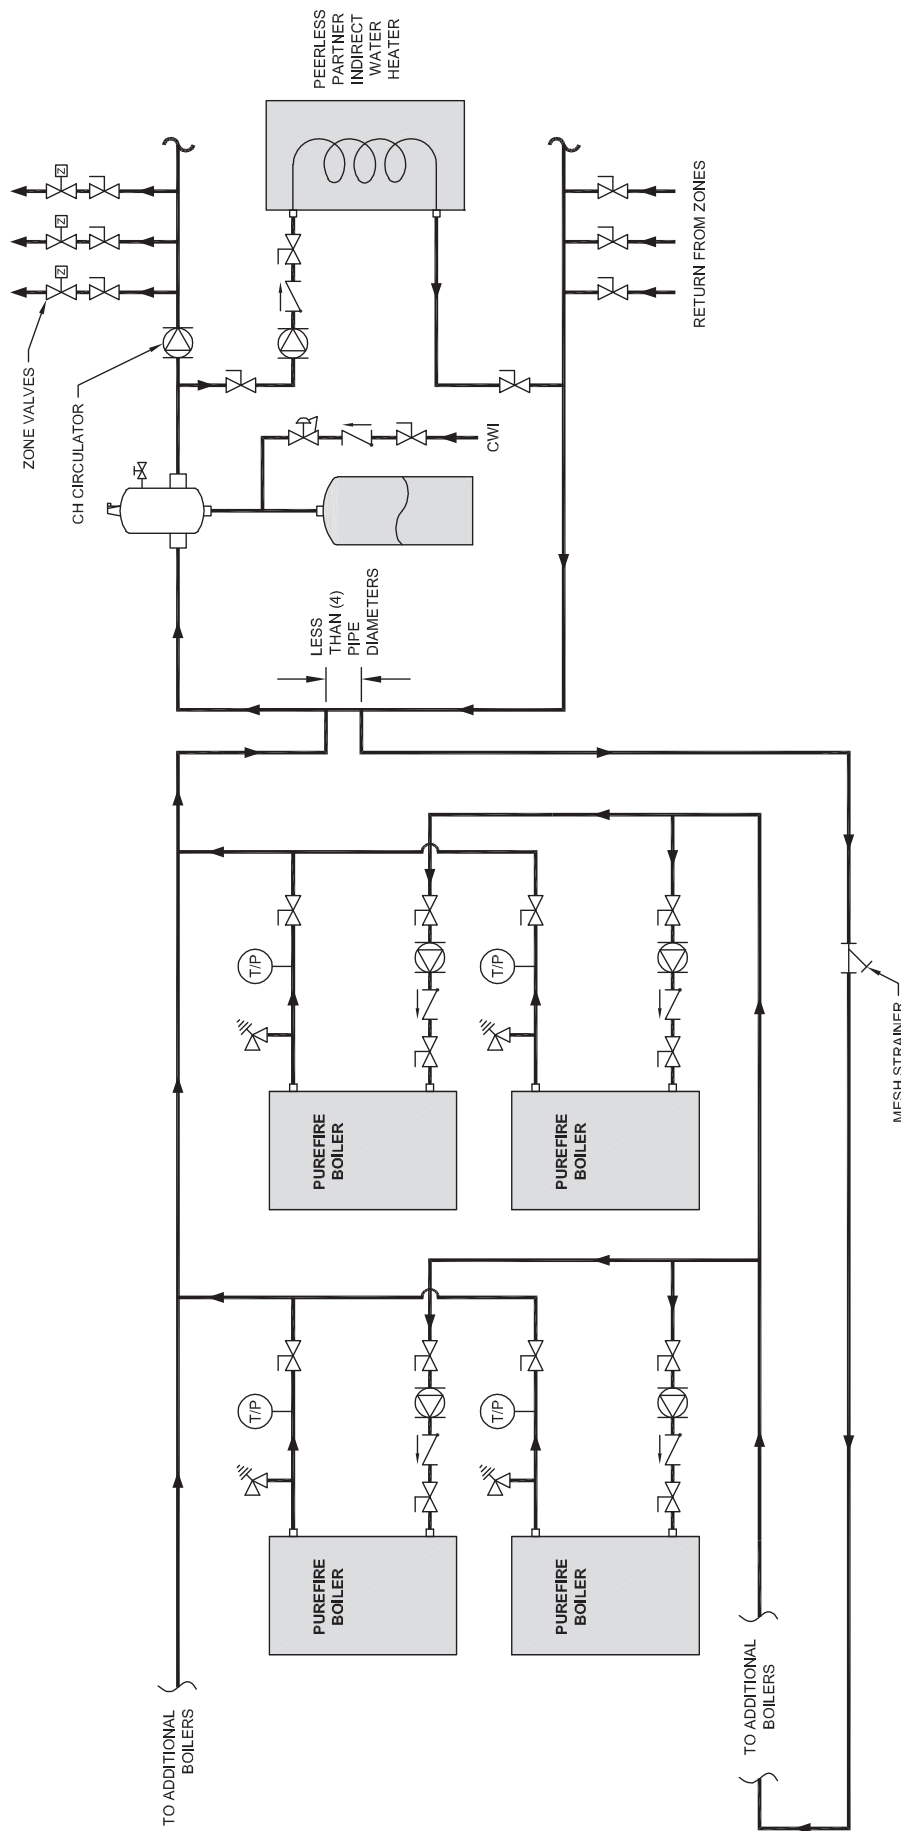

Figure 4.6: Alternate Piping – Multiple Boilers with Multiple CH Zones (Zone Valves) & One DHW Tank
3. Figure 4.6 shows a multiple boiler configuration which uses zone valves instead of zone circulators. Systems which combine both zone valves and zone circulators can help to minimize electrical loads if there are small zones in the system. Contact your PB Heat, LLC representative for assistance with larger systems.